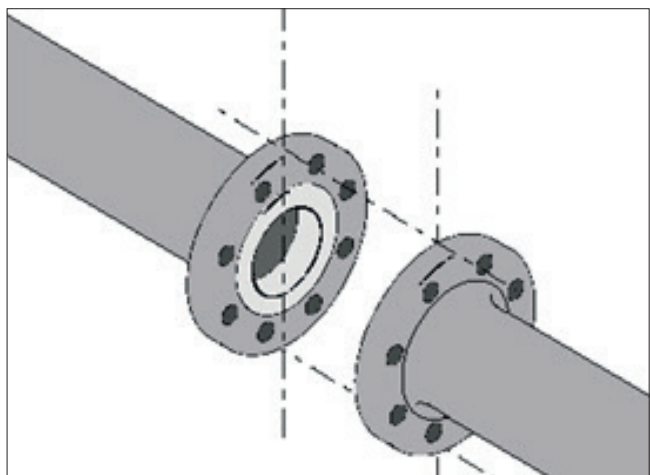

Fig. 5 Check the flange position before installing
- The flange holes of both pipe ends must be exactly aligned, and the sealing surface of the opposing flanges must be exactly parallel. The flange holes must not be twisted against each other, to ensure that the installation cannot cause any stress in the valve. (see Figure 5)